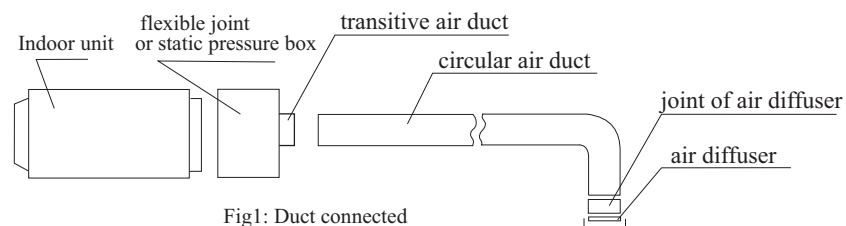

Fig1: Duct connected
4. The connecting pipe between the indoor and outdoor units as well as the drain pipe shall be as short as possible. (See Figure 1)
- An additional transitive air duct is necessary for the circular air duct to connect to the air supply inlet. It should be also connected to its respective air diffuser separately. See Fig.1. Adjust the wind speed of each air diffuser outlet to keep in line on the whole, so as to meet a demand of the air conditioner in the room.